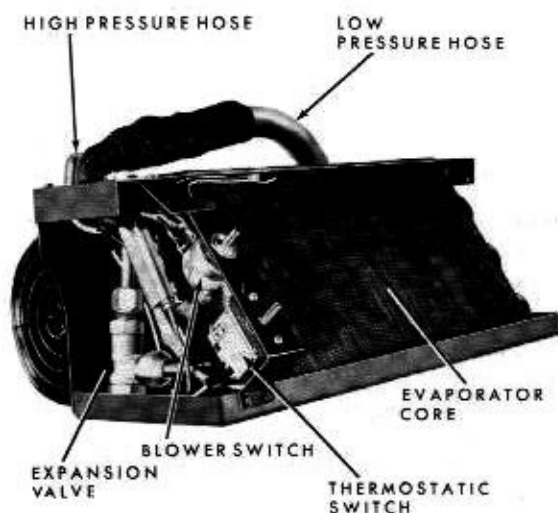

Fig. 6B-4—Evaporator with Front Cover Removed (61MT-8805)
3. Disconnect the mounting brackets from each side of the evaporator case. (Refer to figure 6B-2).
5. Remove one nut retaining the blower switch to the assembly bracket. (See figure 6B-4). Pull the switch to the side of the bracket and disconnect the three wires. Remove the switch.
3. Disconnect the mounting brackets from each side of the evaporator case. (Refer to figure 6B-2.)